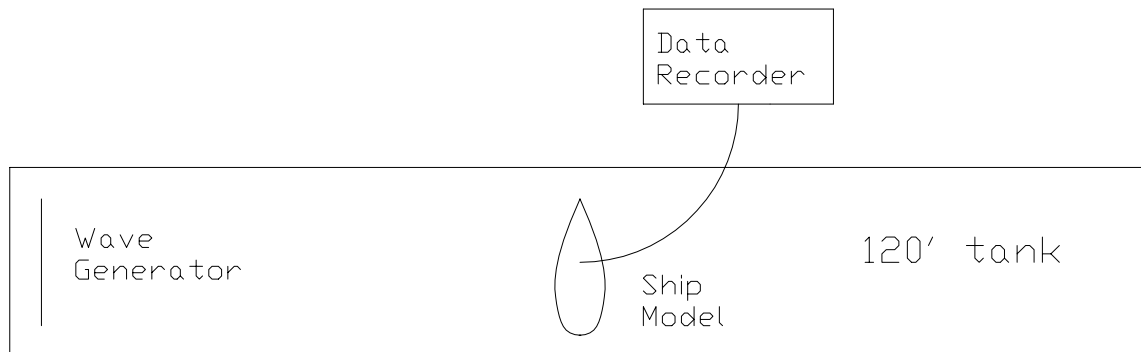

Figure 2 – The Roll Model Apparatus
28. This part of the lab is performed in the 120' towing tank. A ship model is tethered across the tank to prevent it from yawing or swaying down the tank. The model has been instrumented to measure the amplitude of pitch and heave motions. Figure 2 shows a representation of the set up.